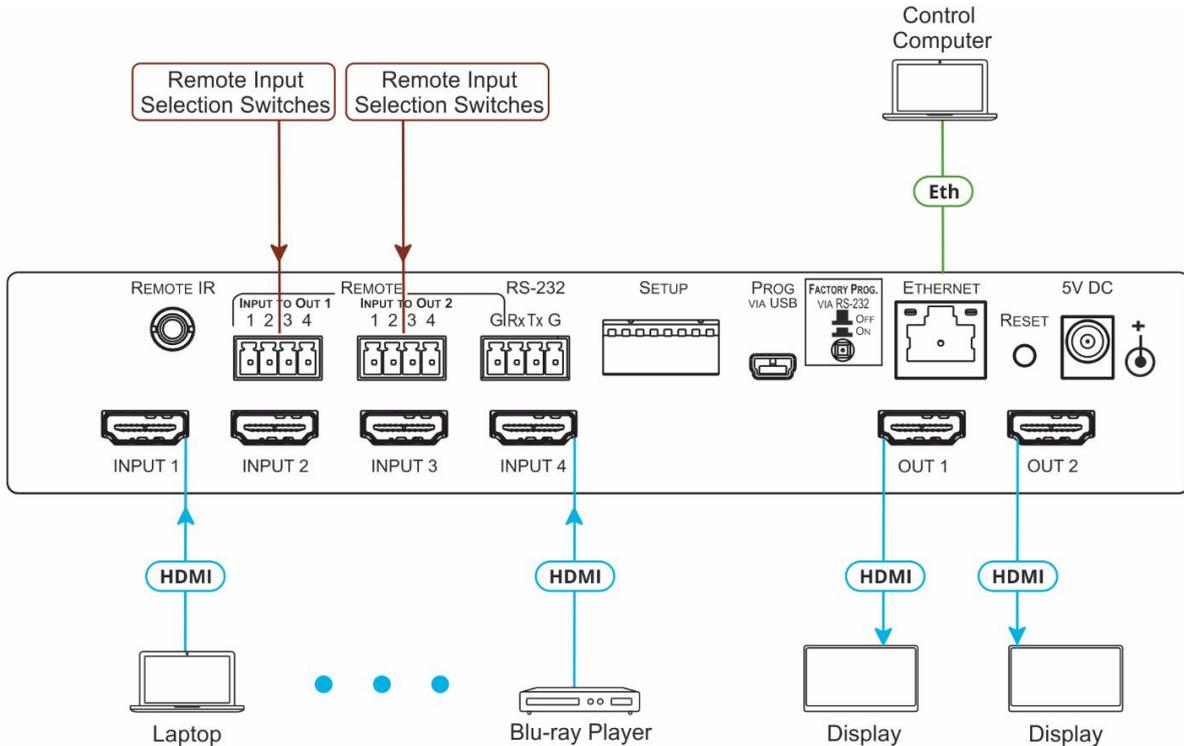

Figure 3: Connecting to the VS-42H2 Rear Panel
To connect the VS-42H2 as illustrated in the example in Figure 3:
4. Connect the power adapter to the device and plug the power adapter into the mains electricity (not shown in Figure 3).